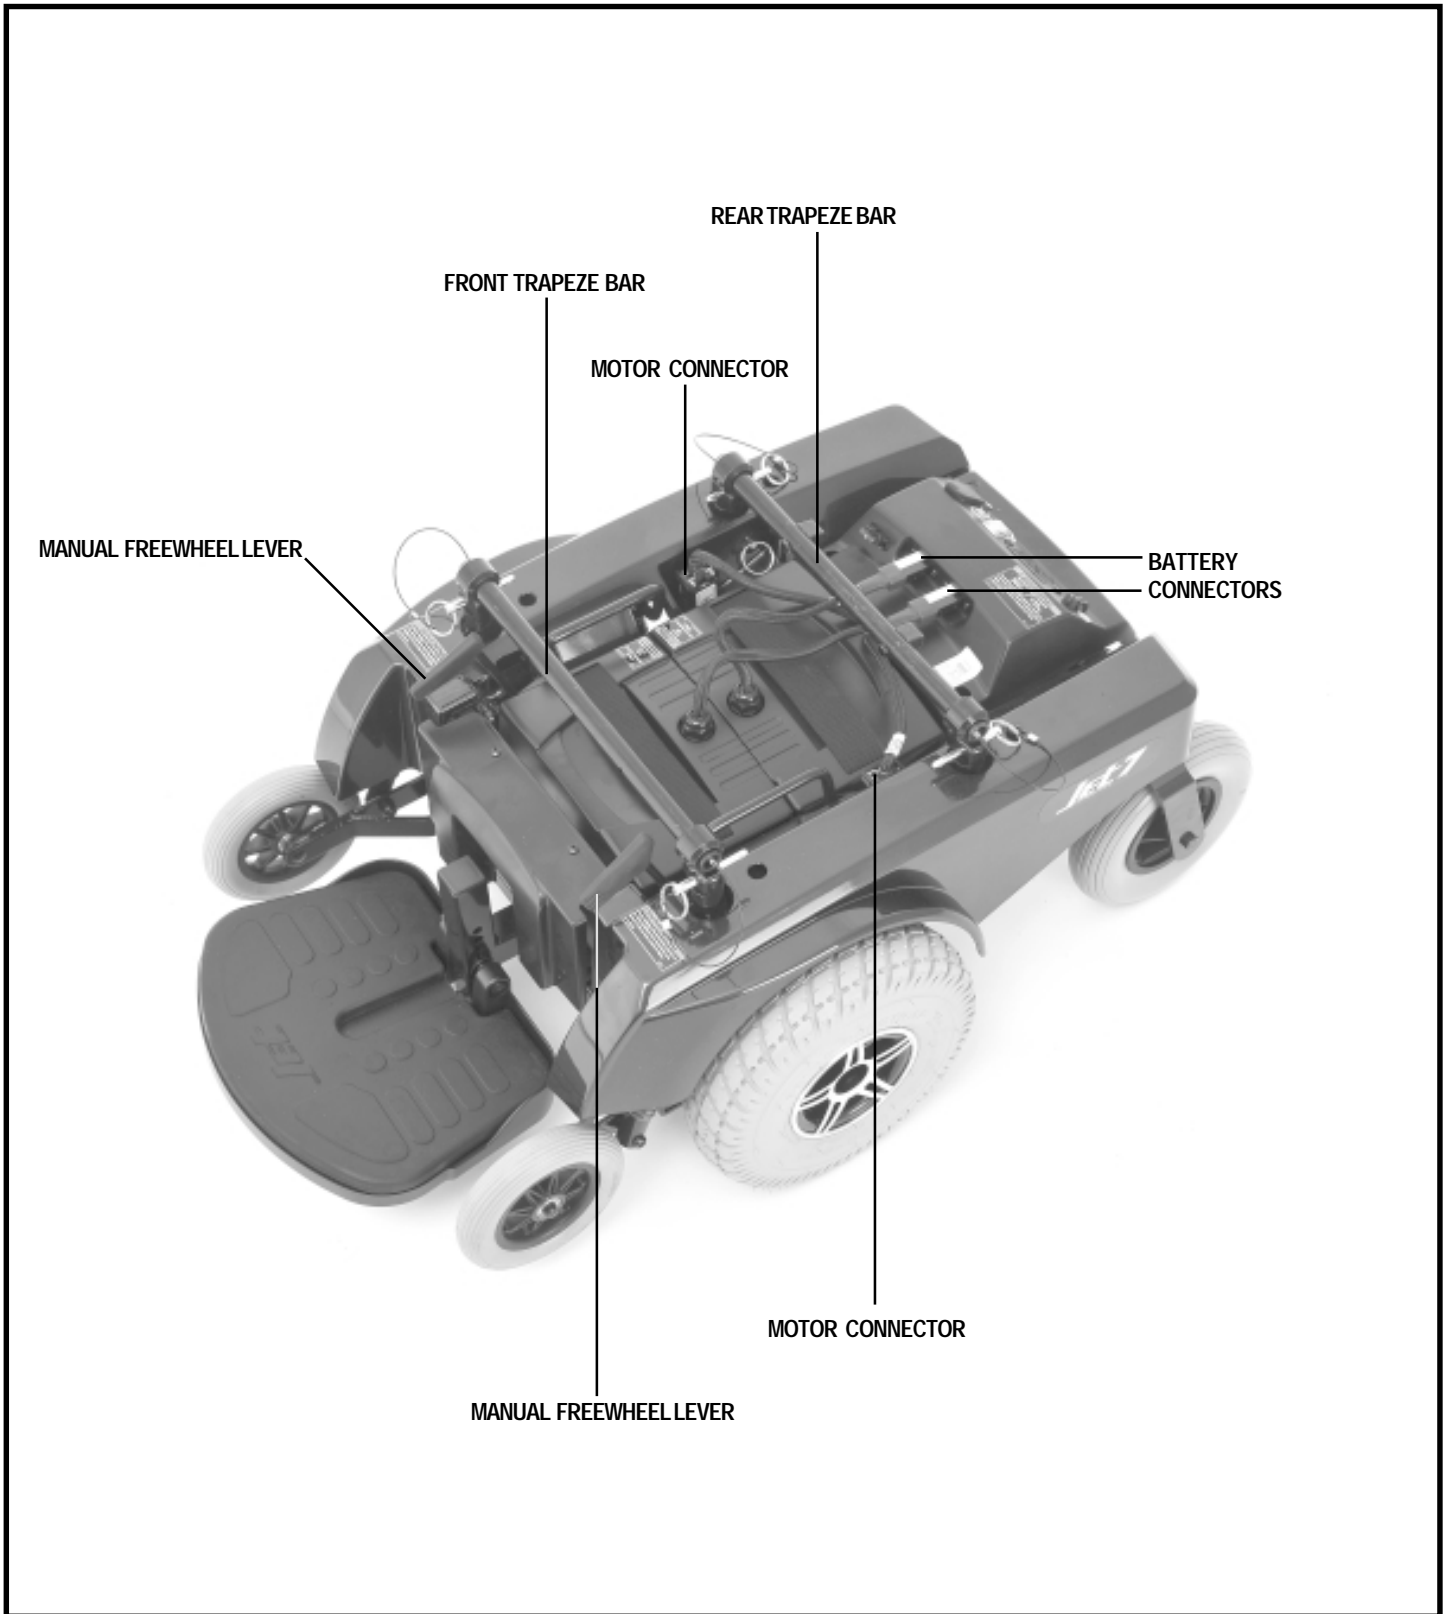
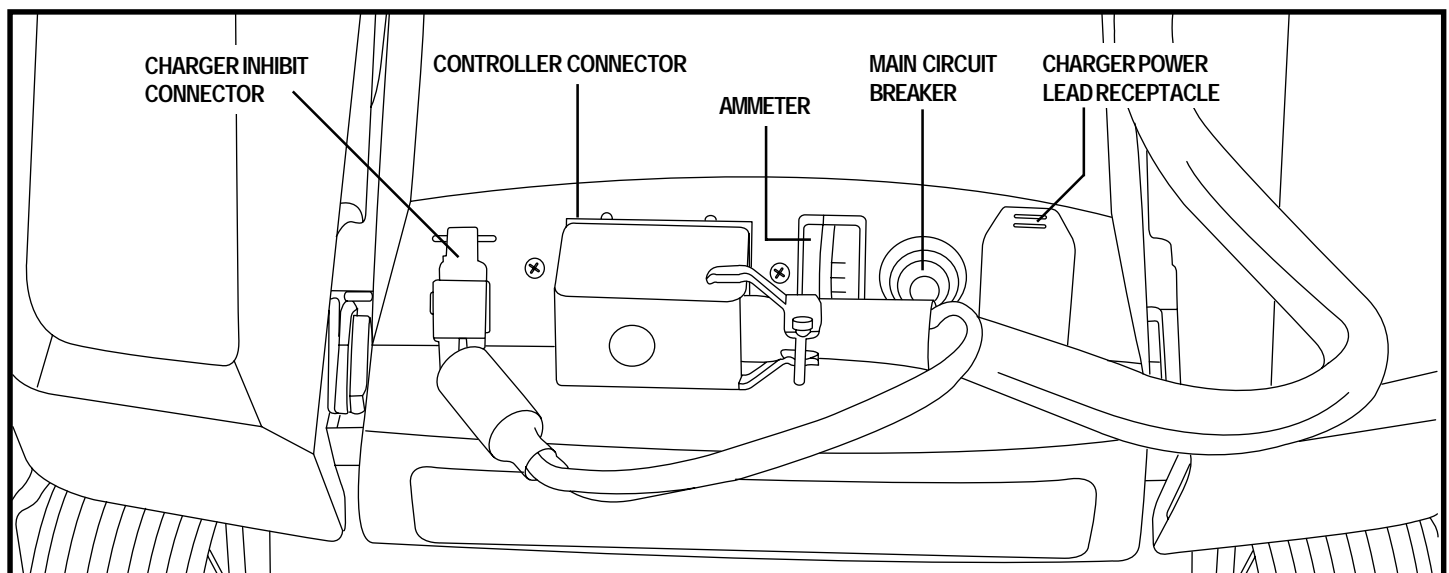

Figure 6. Jet 7 Power Base
Figure 7. Electronics Tray
The electrical components are located on the power base. The battery connectors and motor connectors are located at the rear of the power base. See figure 6. The ammeter, main circuit breaker, controller connector, charger power lead receptacle and the charger inhibit connector are located on the electronics tray. See figure 7.
2. Disconnect the controller connector from the electronics tray. See figure 7. Pull firmly and wiggle the connector to remove it from the socket.
3. Disconnect the charger inhibit connector from the electronics tray. See figure 7. Squeeze the latch release levers on the connector and pull it firmly from the socket.
9. Disconnect the battery connectors and the motor connectors from the power base. See figure 6.